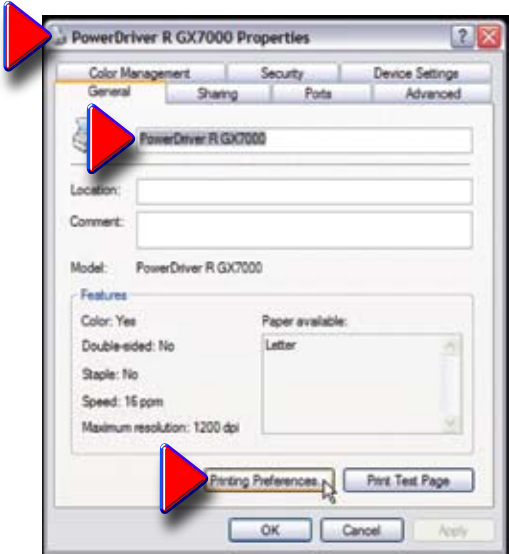

Figure 3
3. This takes you to the “**PowerDriver R GX7000 Properties**” Screen shown in **Figure 3** below.